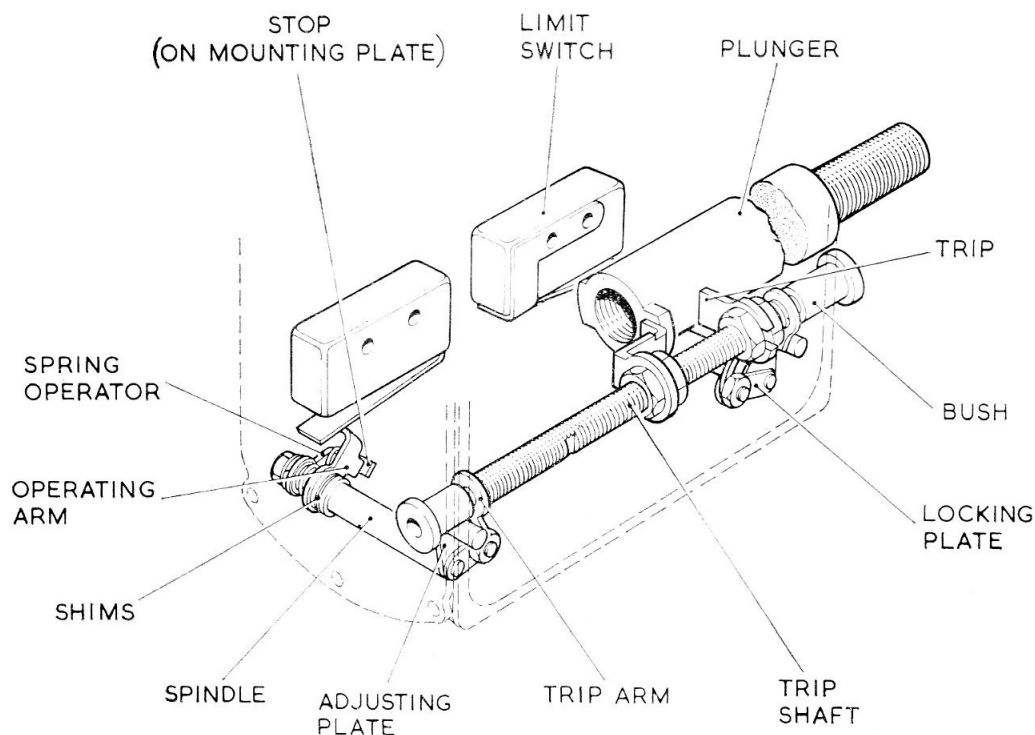

Fig. 1. Switch operating mechanism
2. The type variants are identified by stroke numbers suffixed to the main part number 500/1/00370 to denote differences in the stroke and the centres positions. The short stroke of the 002 variant, necessitates a modified switch operating mechanism which is illustrated in fig. 1 of this appendix. Stroke setting, installation and gearbox